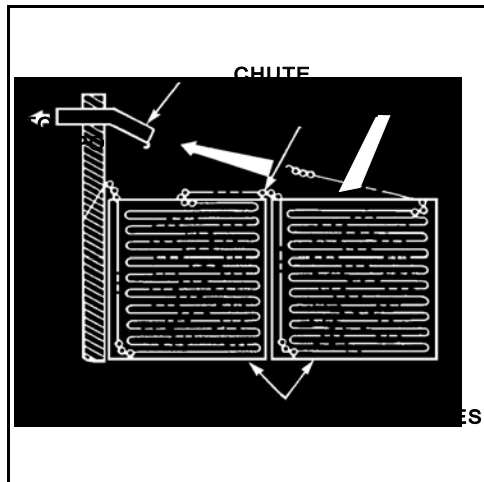

Figure 5. Fully loaded ammunition box.
a. Feed the ammunition belt into the chute from the ammunition box, with the cartridges pointing away from the loader and the single link leading (Figure 5).